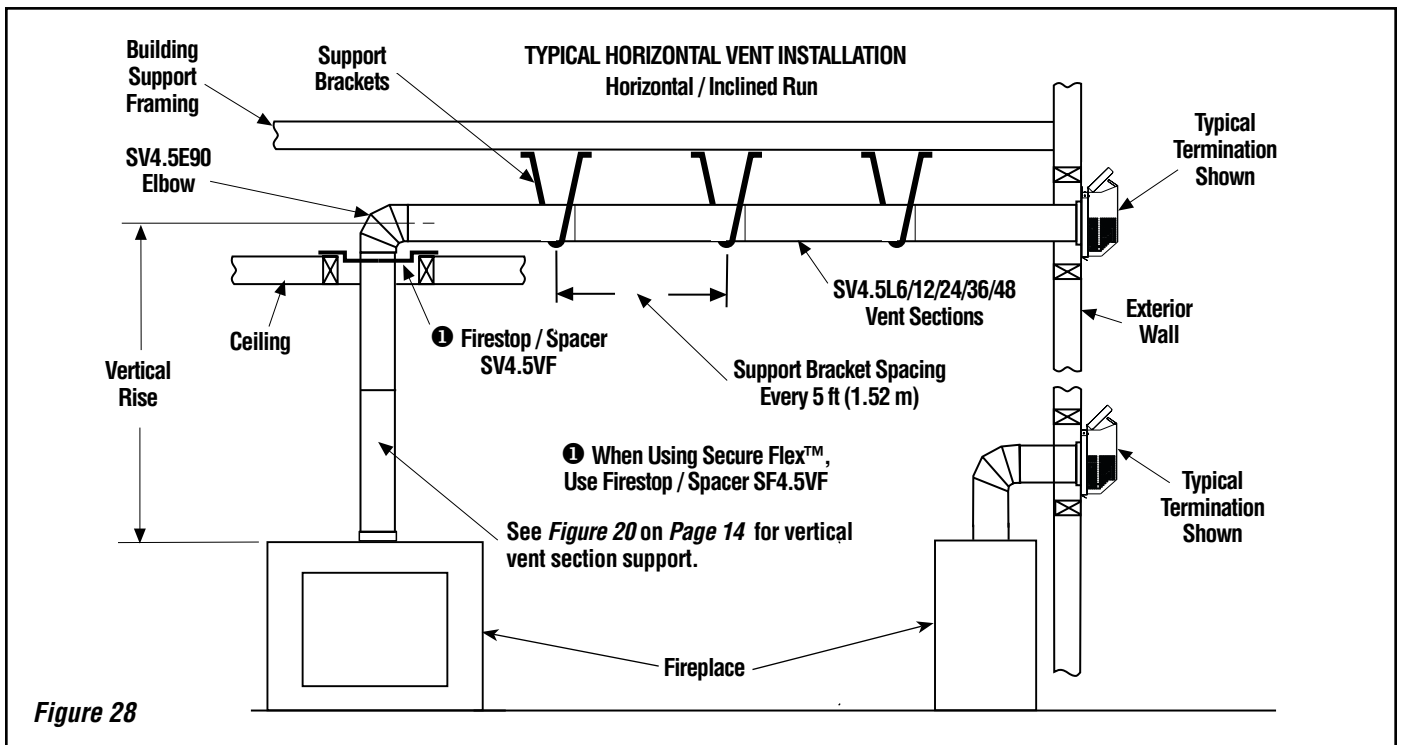

Figure 28
G. Continue installation of horizontal/inclined sections - Continue with the installation of the straight vent sections in horizontal/inclined run as described in **Step C**. Install support straps every 5 ft. (1.52 m) along horizontal/inclined vent runs using conventional plumber's tape. **See Page 18, Figure 28. It is very important that the horizontal/inclined run be maintained in a straight (no dips) and recommended to be in a slightly elevated plane, in a direction away from the fireplace of 1/4" rise per foot (20 mm per meter) which is ideal,** though rise per foot run ratios that are smaller are acceptable all the way down to at or near level. Use a carpenter's level to measure from a constant surface and adjust the support straps as necessary.
See **Figure 28** on **Page 18**, and **Figures 31 through 33** on **Pages 19 through 22** and their associated Horizontal Vent Tables which illustrate the various horizontal venting configurations that are possible for use with these appliances. **Secure Vent™** pipe applications are shown in these Figures; **Secure Flex** pipe may also be used. A Horizontal Vent Table summarizes each system's minimum and maximum vertical and horizontal length values that can be used to design and install the vent components in a variety of applications.
See *Figure 28*. **It is very important that the horizontal/inclined run be maintained in a straight (no dips) and recommended to be in a slightly elevated plane, in a direction away from the fireplace of 1/4" rise per foot (20 mm per meter) which is ideal**, though rise per foot run ratios that are smaller are acceptable all the way down to at or near level.